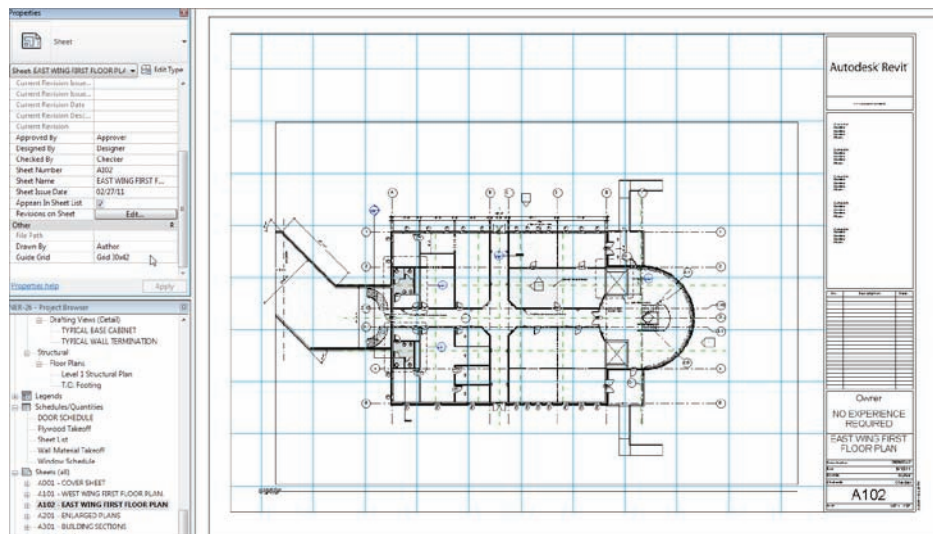

FIGURE 14.6 Adding another sheet
4. At the bottom of the Properties dialog, select 30 × 42 as the guide grid, as shown in Figure 14.6.
6. Pick a point on the sheet to place the view aligned with the guide grid (see Figure 14.6).